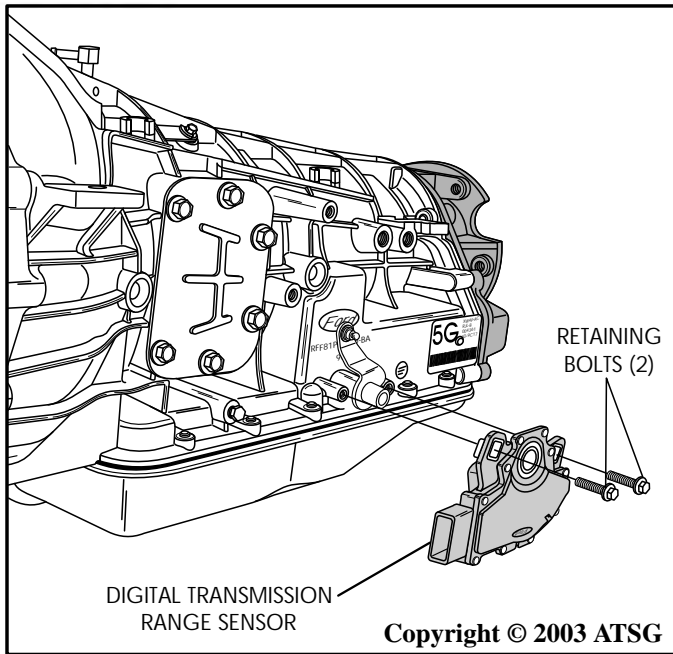

Figure 43
2. Remove the two Digital Transmission Range sensor retaining bolts, as shown in Figure 43, and remove the DTR sensor.